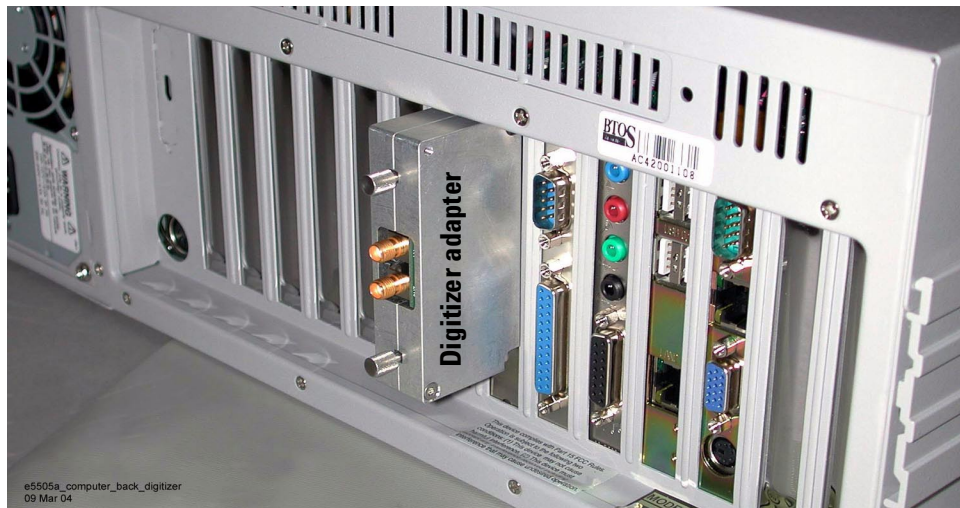

Figure 304 Connect adapter to PC digitizer card
- 1 *Without* power applied, connect the digitizer adapter to the back of the PC digitizer card, as shown in Figure 304.